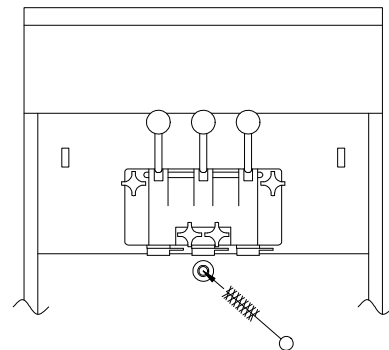

Figure 8-10 Clean inside of drain tube
c. the inside of the drain tube (figure 8-10). Dip the brush in the dish detergent solution and force brush into the drain tube until it stops - repeat until clean.